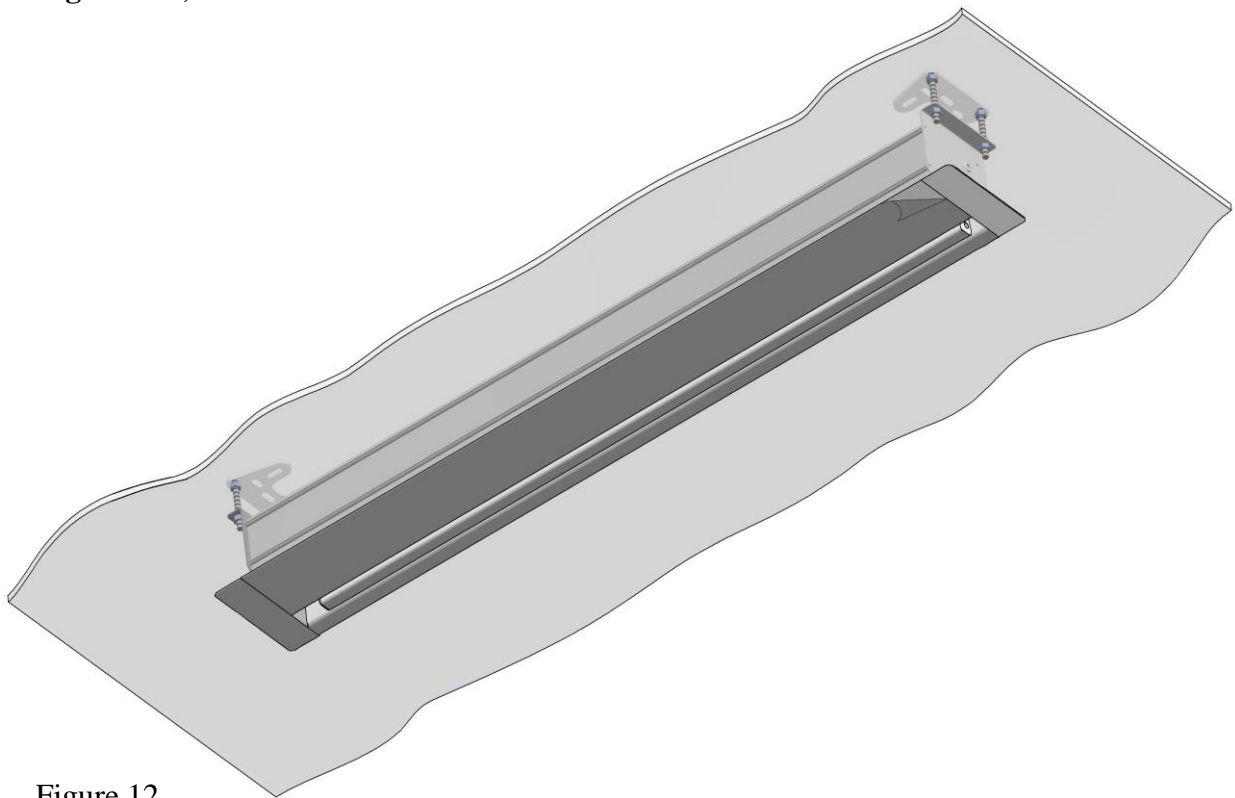
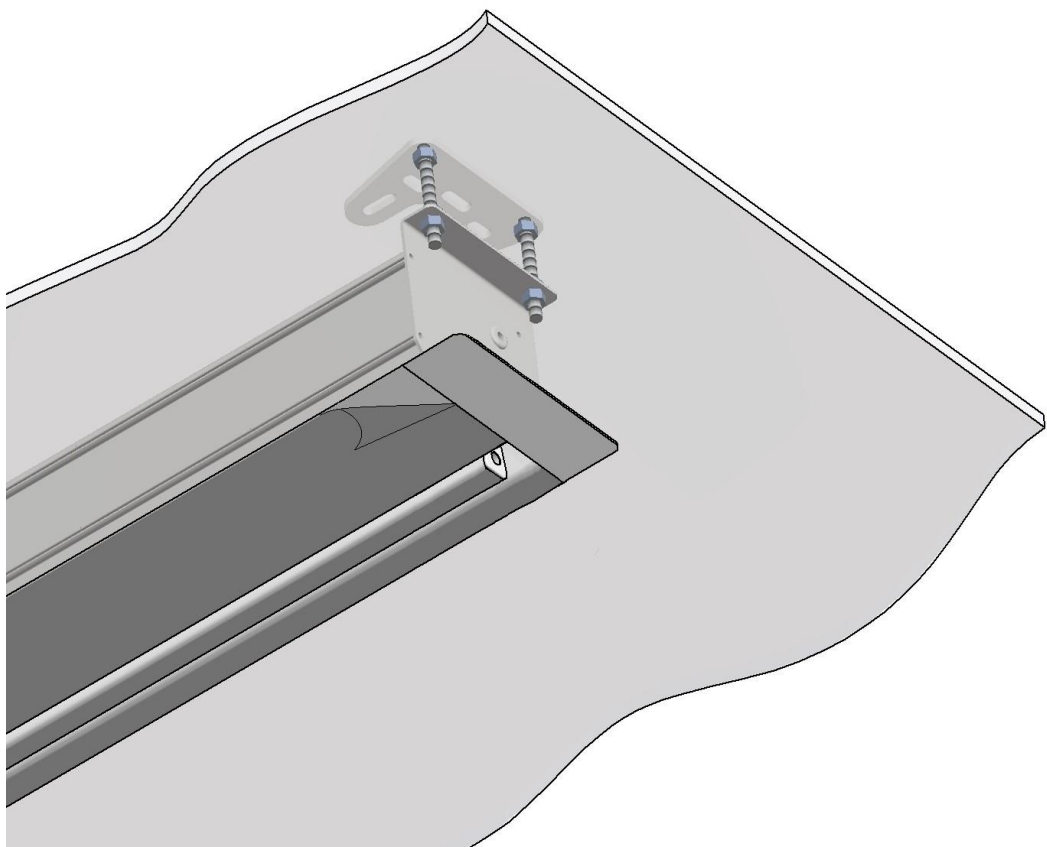

Figure 12
Figure 12a
14. After installation of the screen, remove the scratch protection foil from the housing (**Figure 12, Figure 12a**).